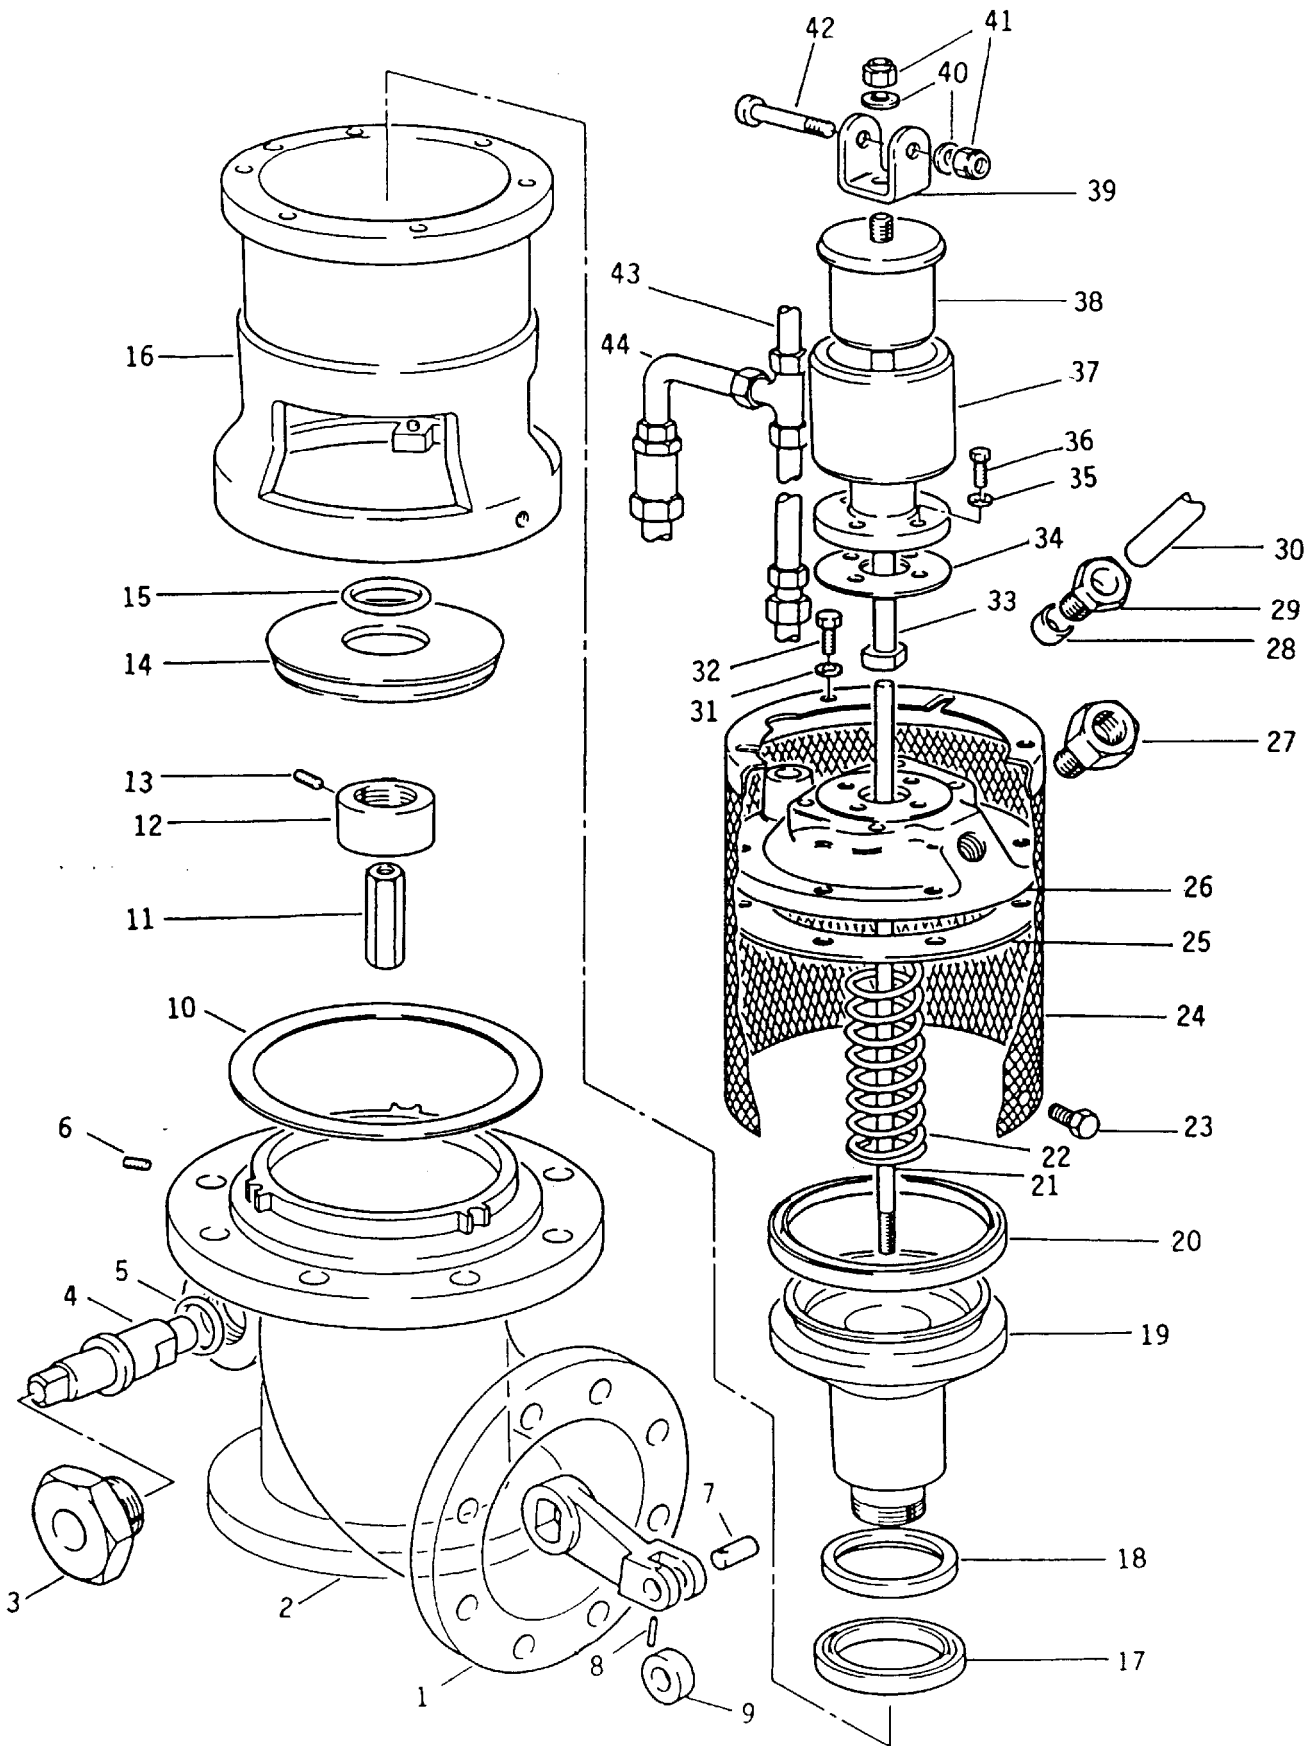

Fig 5.5 'V' Type foot valve
9 TYPE 'V' FOOT VALVE DISMANTLING (Figure 5.5)
- 11.2 Fit the piston (38) into cylinder (37), locate the piston rod (33) through the piston, fit the shackle (39), washer (40) and nut (41). With the piston fully bottomed in the cylinder, adjust the piston rod so that it protrudes 25.4mm (1in) from the cylinder base as shown in Figure 5.5.